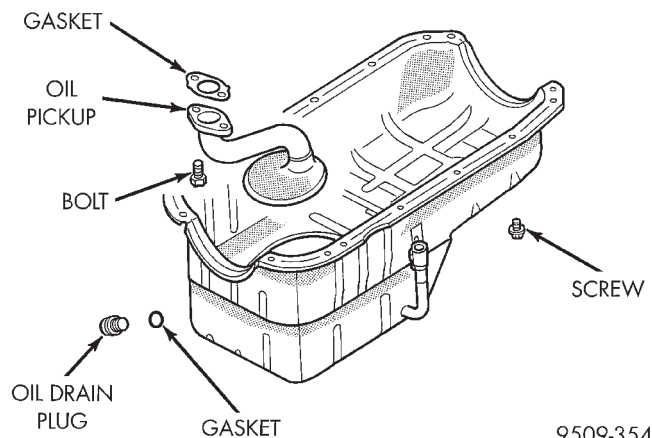

Fig. 63 Oil Pan
- (2) Remove oil drain plug and drain oil (Fig. 63).